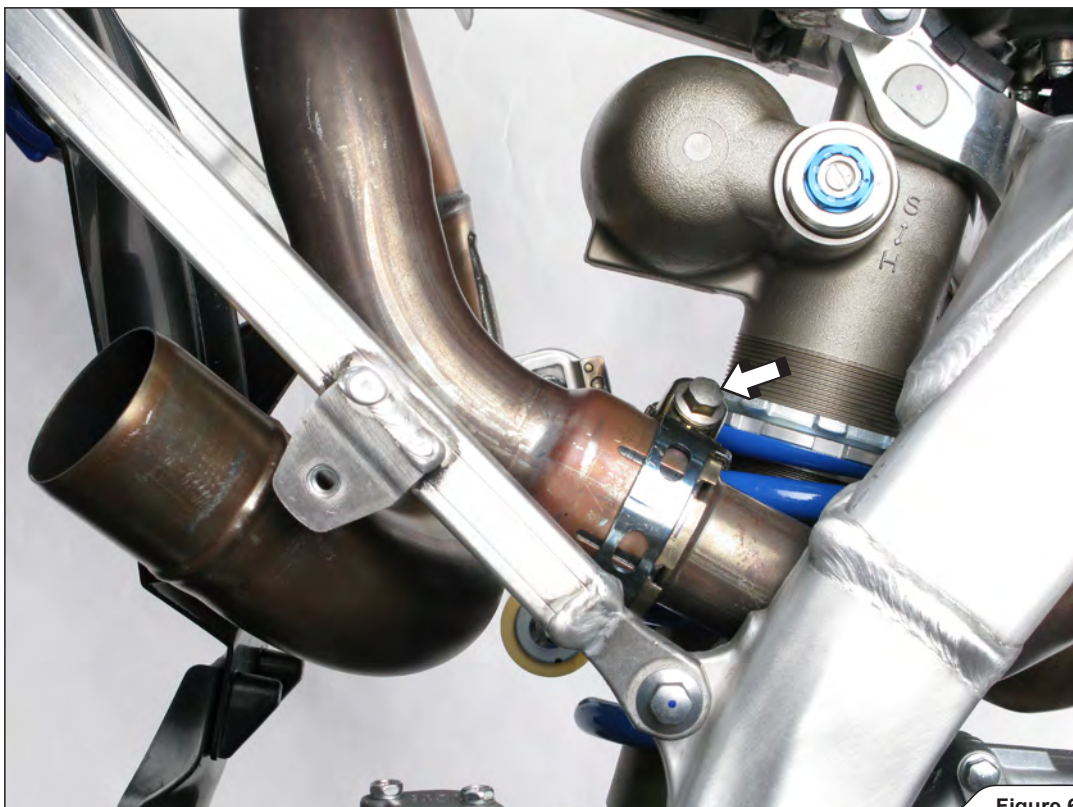

Figure 6
7. Untighten the metal clamp at the header tube - link-pipe joint and remove the link-pipe off the motorcycle (Figure 6).